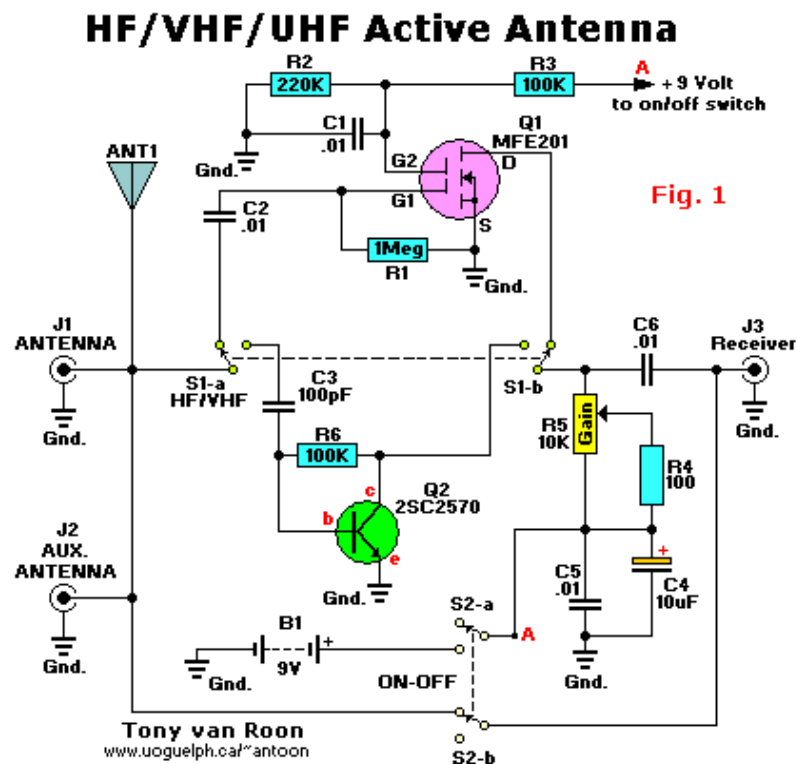

Fig. 1
**Fig. 1** shows the schematic diagram of the AA-7, which contains only two active elements; Q1 (an MFE201 N-Channel dual-gate MOSFET) and Q2 (a 2SC2570 NPN VHF silicon transistor). Those transistors provide the basis of two independent, switchable RF pre-amplifiers. Two double-pole double-throw (DPDT) switches play a major role in this operation of the AA-7. Switch S1 is used to select one of the two pre-amplifier circuits (either HF or VHF/UHF). Switch 2 is used to turn off the power to the circuit, while coupling the incoming RF directly to the input of the receiver. That gives the receiver non-amplified access to the auxiliary antenna jack, at J1, as well as the on-board telescoping whip antenna. With switch S2 in its power-on position, the input and output jacks are disconnected and B1 (a 9 volt battery) is connected to the circuit. With switch S1 in the position shown in the schematic, incoming RF is directed to the HF pre-amp circuit built around Q1 (an MFE201 N-Channel dual-gate MOSFET). The HF pre-amp operates with an exceptionally low noise level, and is ideal for copying weak CW and single-side band signals. When S1 is switched to the other position, the captured signal is coupled to the VHF/UHF pre-amp built around Q2 (a 2SC2570 NPN VHF silicon transistor), which has excellent VHF through microwave characteristics. With the on-board whip antenna adjustable to resonance through much of the VHF-UHF region (length in feet = 234 divide by the frequency in MHz), the VHF/UHF mode is ideal for indoor and portable use with VHF scanners and other receivers. Either mode can be used when tuning 3-30 MHz HF signals. The VHF/UHF pre-amp offers higher gain than the HF pre-amp, but also has a higher noise level. You can easily choose either amplifier for copying any signal; of interest--just try both positions. The RF gain control (R5) can be used to trim the output of either amplifier.
Although not shown in the schematic (Fig. 1) or the layout (Fig. 3) diagrams, an optional led power indicator can be added to the circuit. Adding a power indicator to the circuit allows you to tell at a glance if the circuit is on; leaving the circuit on, even though the AA-7 draws only about 0.7 mA, will eventually discharge the battery. Of course, adding an led will increase the current drain to by about 7 mA, but the red glow makes it obvious when the unit is on.
**Fig. 1.** "The AA-7 Active Antenna contains only two active elements: Q1 and Q2 (a 2SC2570 NPN VHF silicon transistor), which provide the basis of two independent, switchable RF preamplifiers."